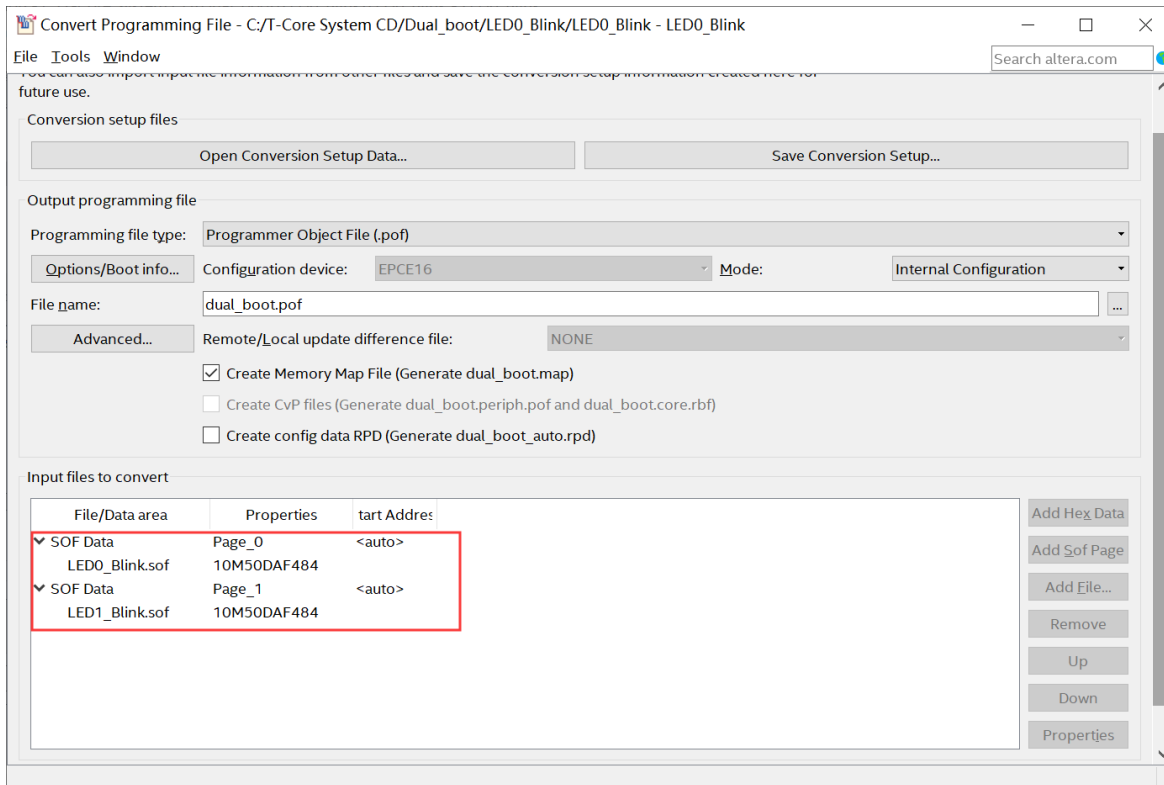

Figure 4-15 Add sof page and sof file
7. Click **Add Sof Page** to add Page_1 and click **Add File**, Select the LED1_blink.sof to be the .sof data of Page_1 as shown in **Figure 4-15**.